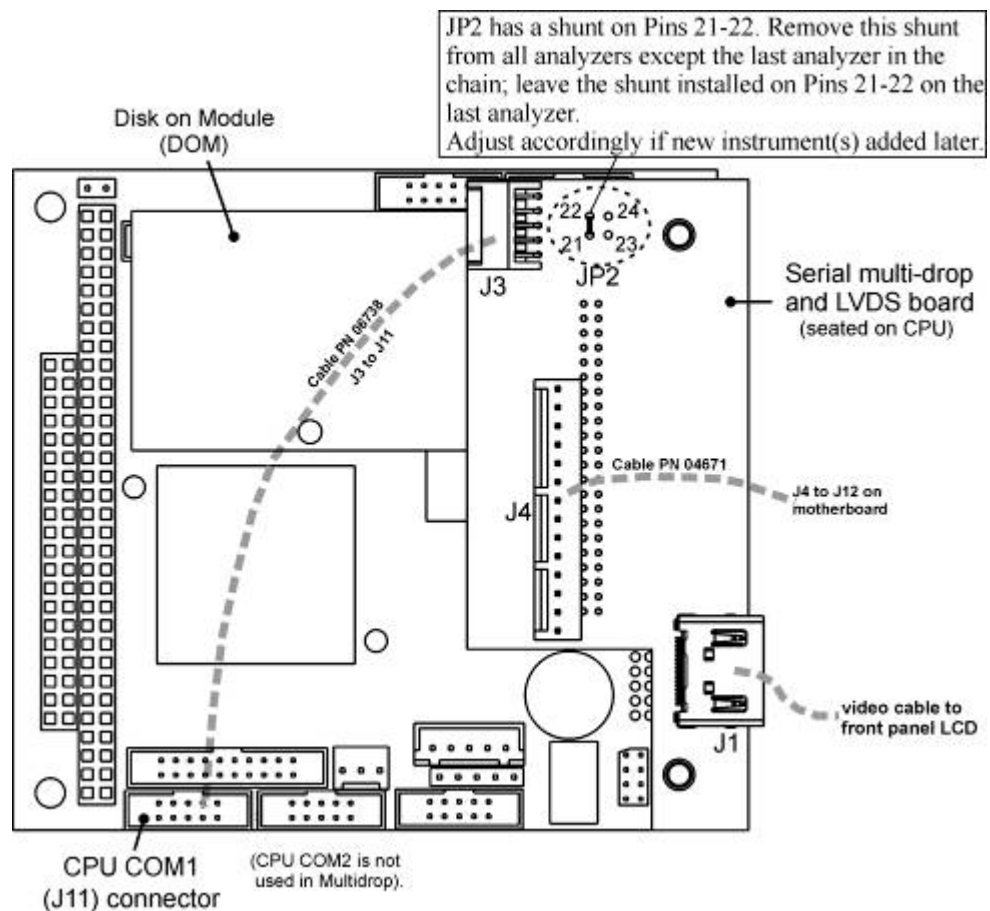

Figure 3-12: Jumper and Cables for Multidrop Mode
In each instrument with the Multidrop option there is a shunt jumpering two pins on the serial Multidrop and LVDS printed circuit assembly (PCA), as shown in Figure 3-12. This shunt must be removed from all instruments except that designated as last in the multidrop chain, which must remain terminated. This requires powering off and opening each instrument and making the following adjustments:
3. Check that the following cable connections are made in all instruments (again refer to Figure 3-12):